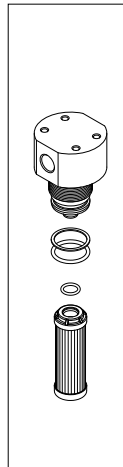

fig. 9
- (Fig. 9) Fit 1°: the anti-extrusion ring and 2°: the O-ring in the bowl groove, insert the O-ring in the filter element cap